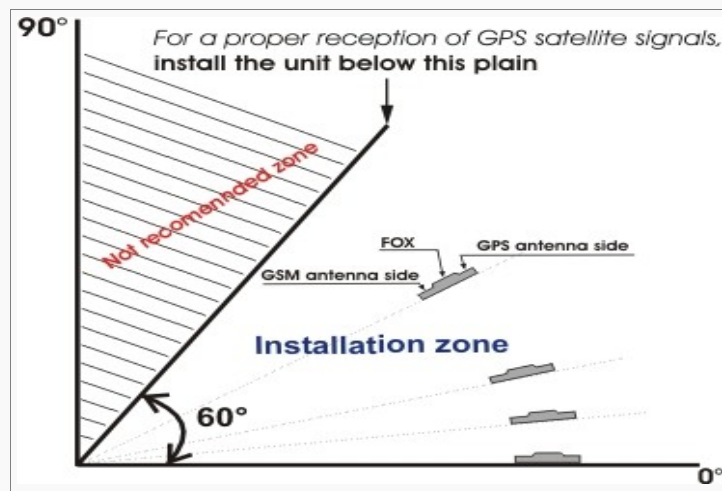

Figure 12.1: Installation area relative to the horizon plain
- ✓ For a proper reception of GPS signals, orient the unit at an angle from 0 to 60 degrees relative to the horizon, and so that the housing itself does not obstruct GPS signals (see Fig. 12.1).